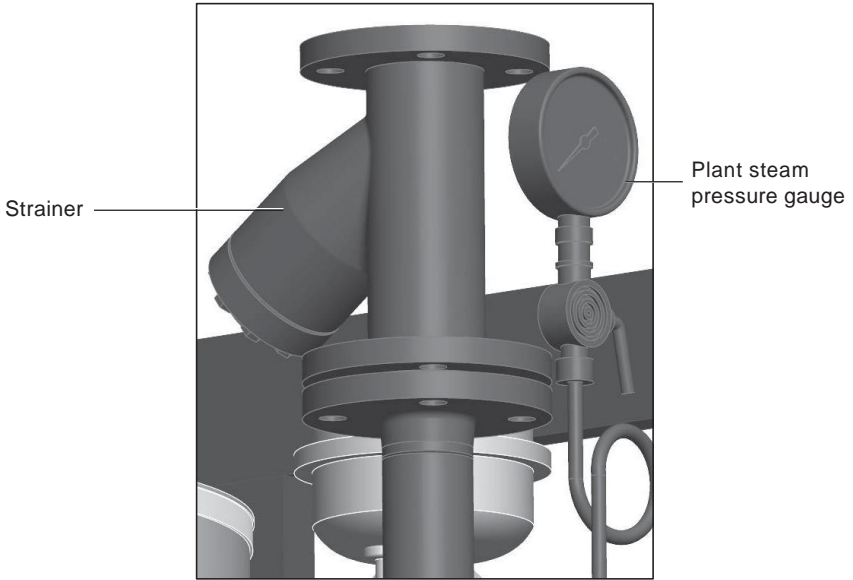

Fig. 17
5.4.3 Pressure gauge (primary steam) - Figure 17
5.4.5 Strainers - Figure 17